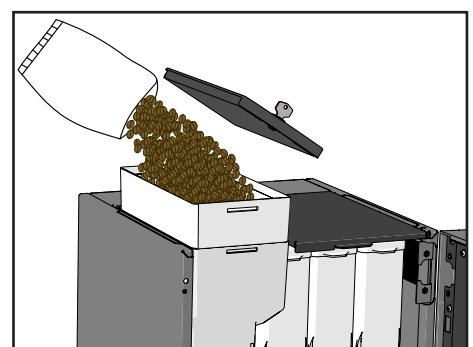

Figure 63. Filling the bean canister inside the machine
2. Fill the canister with beans (see Figure 63).